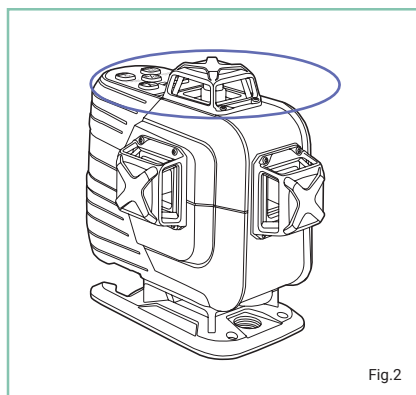

Fig.2
- Press the **power button** and the laser level will power on and begin automatically self-levelling. The top horizontal beam will activate (Fig.2). When the laser is in the levelled position the following icon will be displayed on the LCD screen of the remote control: